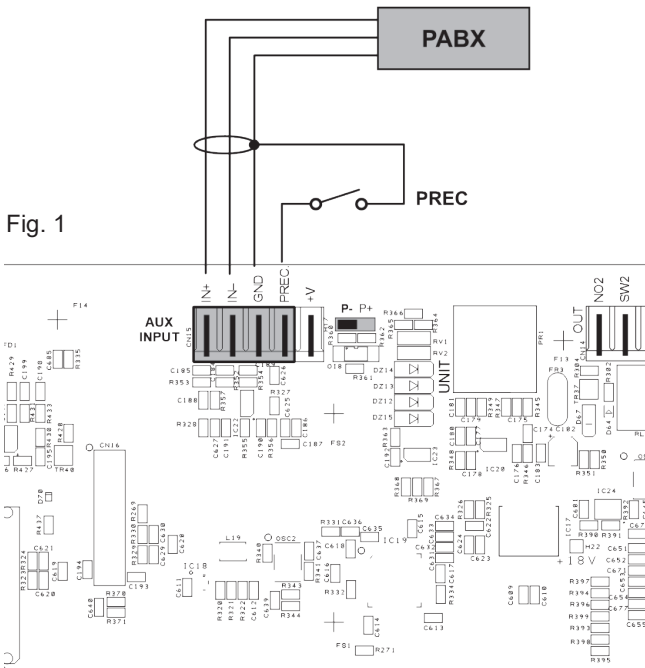
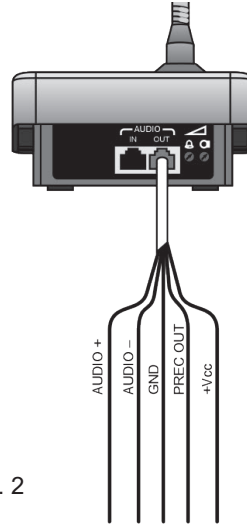

Fig. 1
Fig. 2
The **AUX INPUT** terminals (7) are available for connecting auxiliary sources (e.g. a PABX or a base for announcements with a precedence contact). In the first case, it is necessary to fit a jumper in position “P-” (see Fig. 1). In the second case, on the other hand, using a pre-amplified station of the B711-G range, connection between the AUDIO OUT socket of the base and the AUX terminals has to be made as indicated in the table and the jumper will have to be positioned on “P+” (see (Fig. 2).